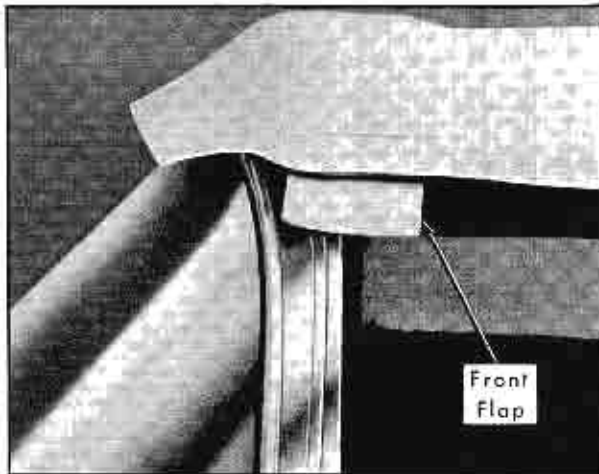

Fig. 3-112 Cementing Front Flap to Side Roof Rail
11. At the front roof rail, pull top material forward (do not stretch excessively tight), and cement the front flaps to the side roof rail. Install side roof rail front weatherstrips. See Fig. 3-112.